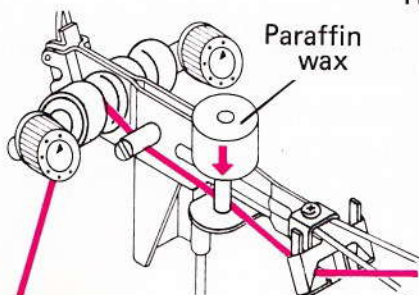

Fig. 141
- (4) Place pattern selectors on 'plain'.
- (5) Yarns which are not smooth must be waxed as illustrated in fig. 141.